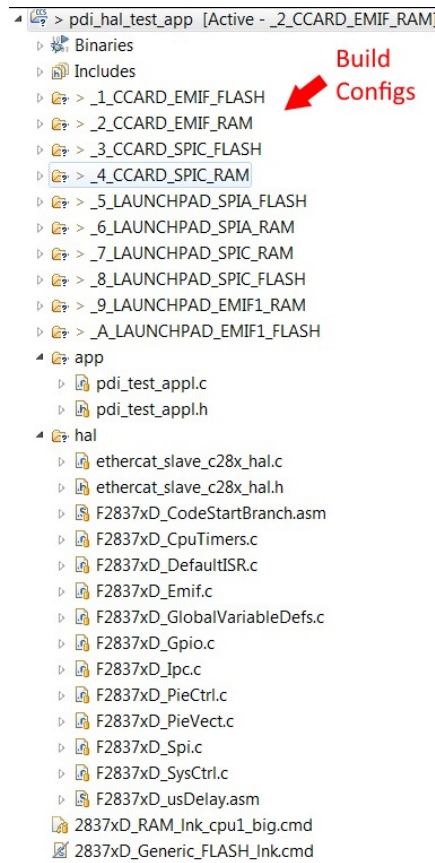

Figure 30. EtherCAT HW Abstraction Layer Project
- Right click on the project and set the desired active build configuration. **Figure 30** shows the available configurations, which provides options for board types (LaunchPad and controlCARD plugin), program storage (FLASH and RAM), as well as interface type (EMIF, SPI-A, or SPI-C)